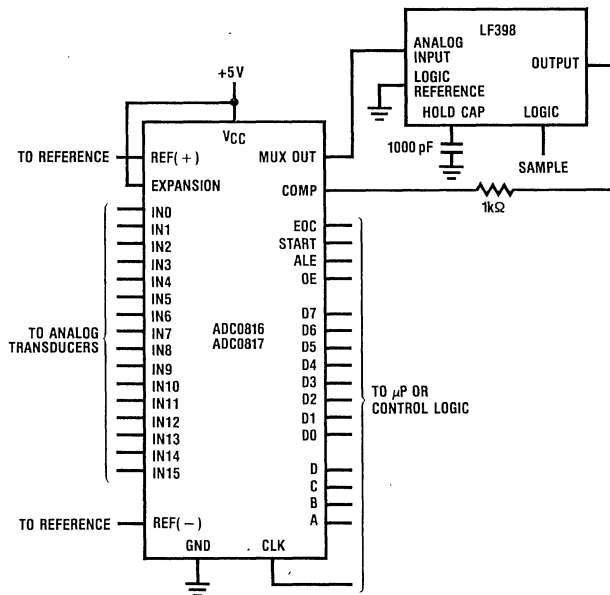

Figure 20. Sample/Hold Converter Using LF398
*Figure 20*. The acquisition time for this part is typically  $4\mu\text{S}$  to  $0.1\%$ , and the droop rate is  $20\mu\text{V/conversion}$ . This circuit has its own hold control thus the expansion control is free to be used normally.